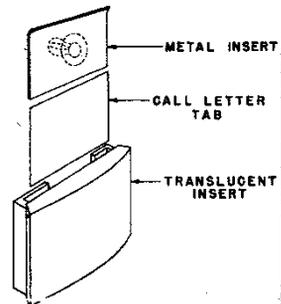

Fig. 2. Inserting call letters
1. Slide out metal insert from translucent insert assembly. (See Fig. 2).